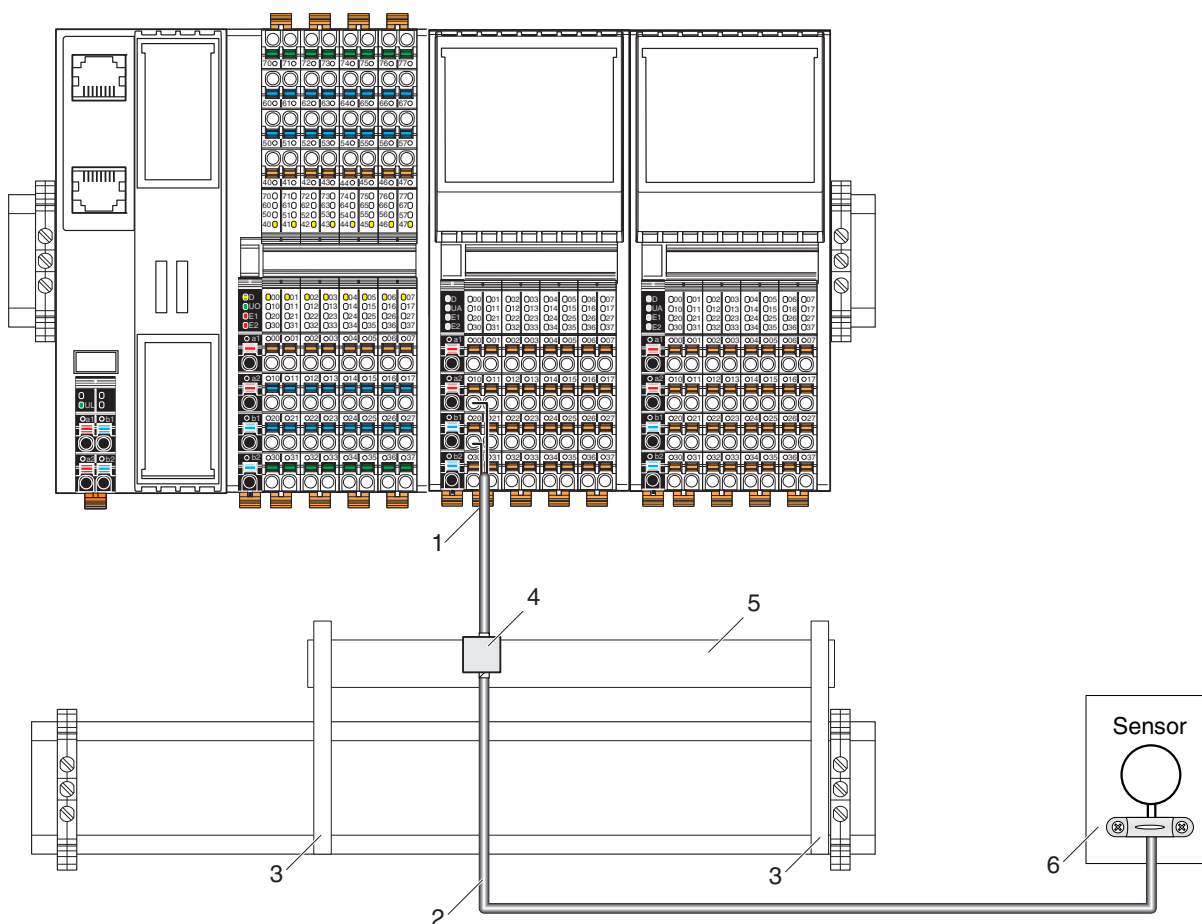
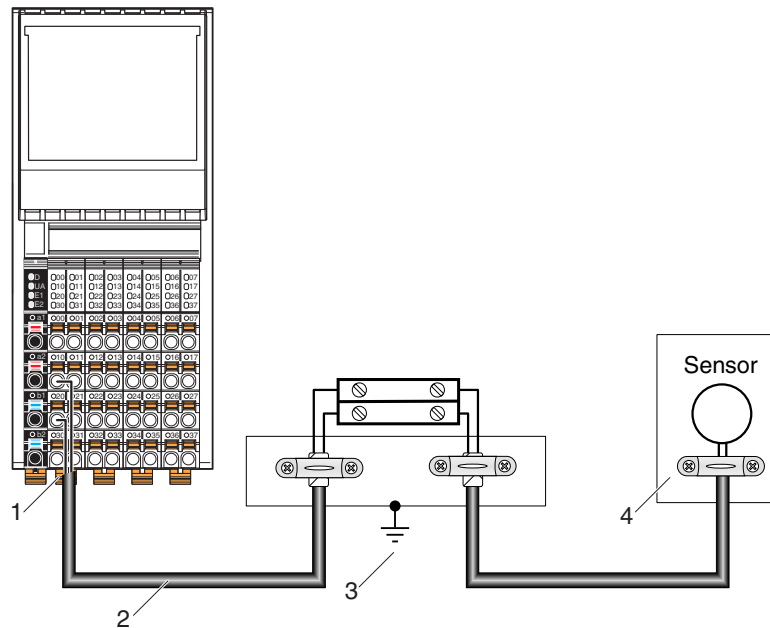

Figure 8-9 Connecting the shielding to a busbar
Figure 8-10 Integration of analog shielding in a concept with central equipotential bonding at the control cabinet entry
- Connect the shield via a shield bus. (See Figure 8-9)
- As a rule, shielding must only be connected directly to the PE potential on one side. This is to prevent any occurrence of equipotential bonding currents via the shielding (see Figure 8-9 and Figure 8-10).
- If necessary, integrate the shielding concept for analog I/O cables in the system concept. For example, it is advisable to use a central FE shield connection at the control cabinet entry (see Figure 8-10).